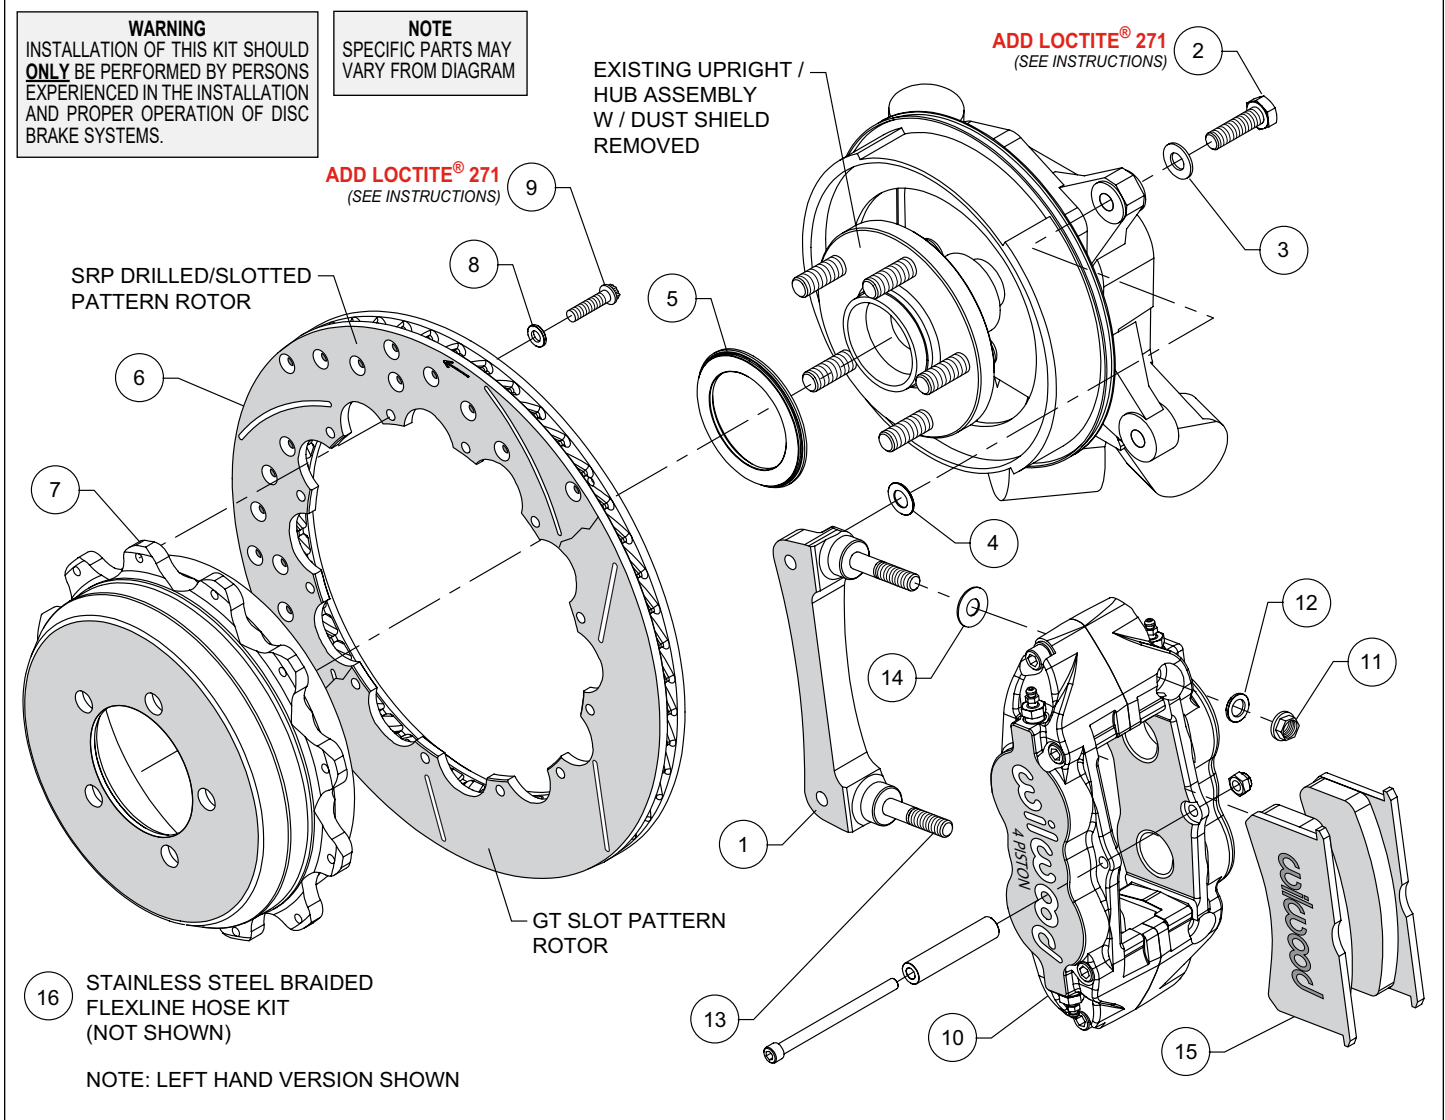
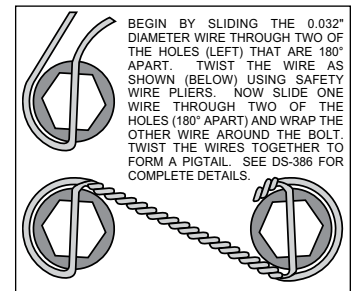

Figure 1. Typical Installation Configuration
Figure 3. Safety Wire Diagram
NOTE: Numbers in parenthesis refer to the parts list and Figure 1 on the preceding pages.
- The caliper mount bracket (1) should initially be installed with clean, dry threads on the mounting bolts. Orient the bracket as shown in Figure 1 and Photo 2, and install using washers (3) and bolts (2). Initially place one shim (4) on each bolt between the bracket and upright, Figure 1. Temporarily tighten the mounting bolts. **NOTE: The bracket must fit squarely against the mount bosses on the upright.** Inspect for interference from casting irregularities, machining ridges, burrs, etc. Later, after the caliper alignment has been checked, the mount bolts will be secured using red *Loctite*® 271.
- Orient the rotor (6) and the hat (7) as shown in Figure 1 and Photo 3. Attach rotor to hat using bolts (9) and washers (8). Apply red *Loctite*® 271 to the bolt threads and torque to 140 **in-lb** using a criss-cross pattern. For an added measure of security, the bolts may be safety wired using standard 0.032 inch diameter stainless steel safety wire as shown in Figure 3. Please refer to Wilwood's data sheet DS-386 (available at www.wilwood.com/Pdf/DataSheets/ds386.pdf) for complete safety wire installation instructions.
- Slide the rotor registration adapter (5) onto the axle register on the axle hub with the smaller O.D. facing outward, Photo 4. Slide the hat/rotor assembly onto the axle hub. **NOTE: The hat must fit flush against the axle hub flange or excessive rotor run out may result.** Install three lug nuts (finger tight) to keep the hat/rotor assembly in place while continuing with the installation.
- Initially place one .035" thick shim (14) on each stud (13) as shown in Figure 1 and Photo 5. Mount the caliper (10) onto the bracket (1) using lock nuts (11) and washers (12), Figure 1. Temporarily tighten the lock nuts and view the rotor through the top opening of the caliper. The rotor should be centered in the caliper, Photo 6. If not, adjust by adding or subtracting shims (4) between the bracket and the upright. Once the caliper alignment is correct, remove the bracket mounting bolts one at a time, apply red *Loctite*® 271 to the threads, and torque to 40 ft-lb.
- Remove the caliper center bridge pad retainer bolt, nut, and tube from the caliper. Insert the brake pads (15) into the caliper, with the friction material facing the rotor, as shown in Photo 7. Check that the top of the brake pad is flush with the outside diameter of the rotor, Photo 8. If not, adjust by adding or subtracting shims (14) between the caliper and the bracket. After the caliper pad height is set, reinstall the center bridge pad retainer tube, bolt, and lock nut. The lock nut should be snug without play in the bolt or tube. Be cautious not to over tighten. Torque the caliper lock nuts (11) to 30 ft-lb.